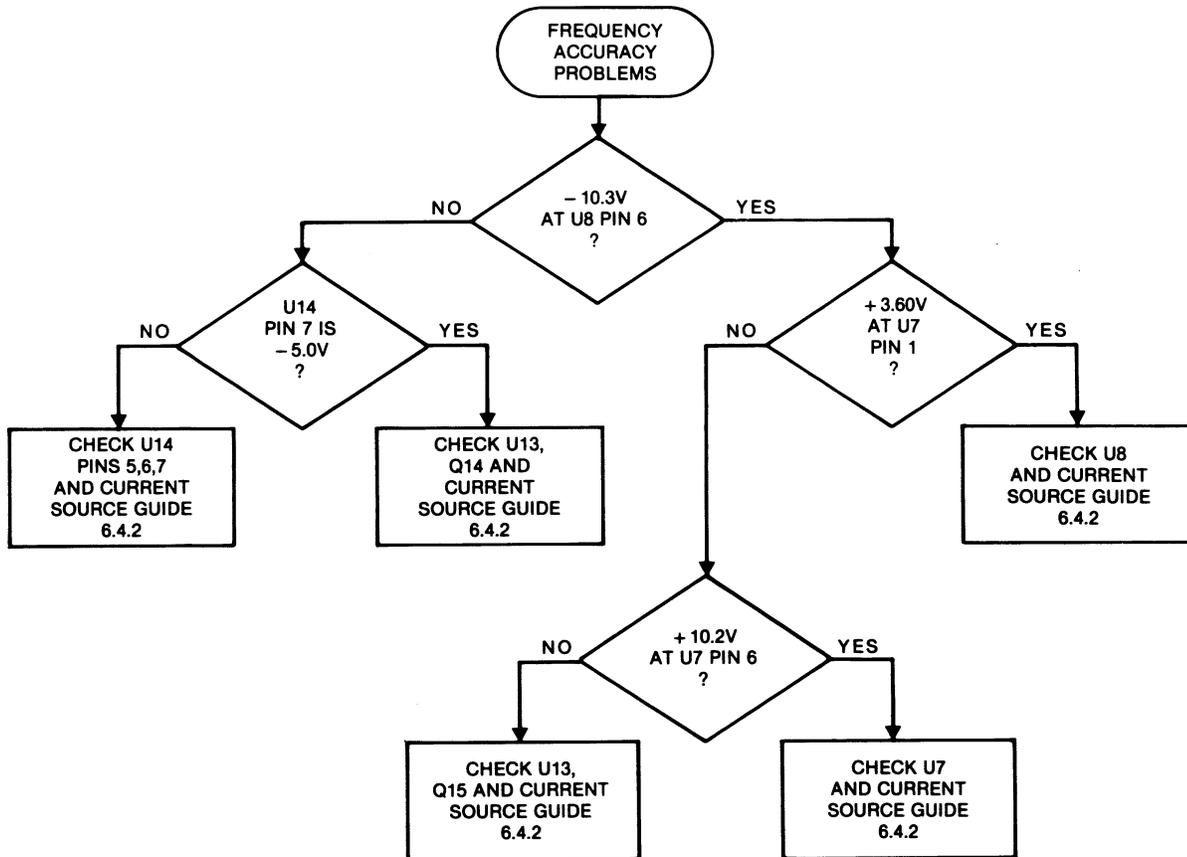

Figure 6-7. Frequency Accuracy Troubleshooting
7. If none of the above conditions apply, refer to figure 6-7.